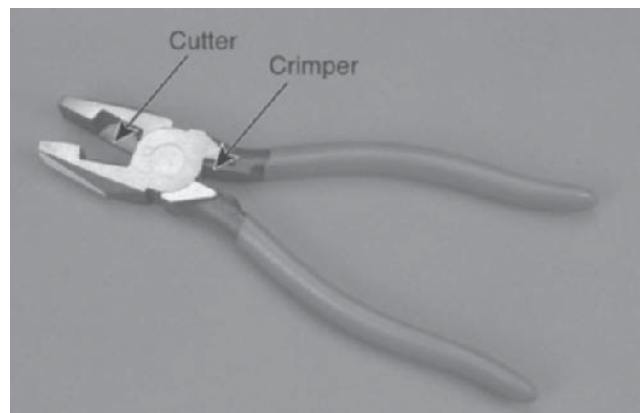

Figure 14-36 Cutting pliers with a wire crimper.
- Cutting pliers (Figure 14-36)